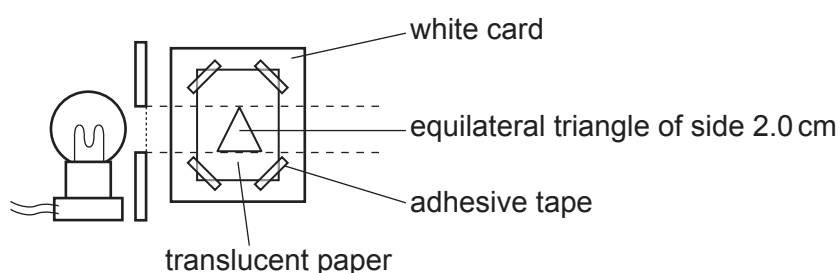

Fig. 3.1
- 1 The object is made by cutting a hole in the shape of an equilateral triangle of side 2.0 cm in the card (see Fig. 3.1). The triangular hole must be covered with translucent paper (e.g. tracing paper).